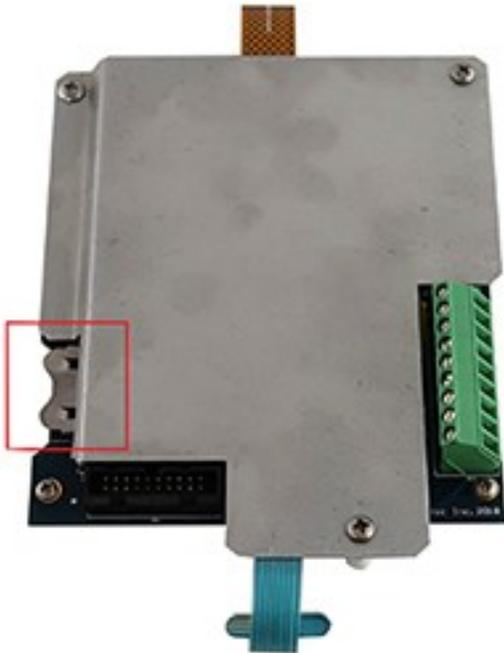

Figure 9-1. Lithium battery location
1. Open the swing panel located at the bottom-left edge of the plate that protects the circuit board below the USB port (Figure 9-1 [p. 44]).